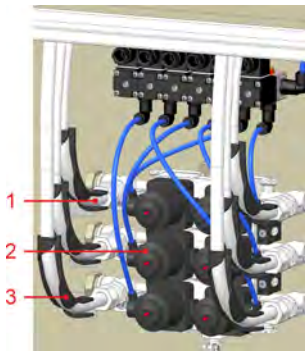

Fig. 7: Diaphragm valve manifold block / machine assignments
1. As shown in Fig. 7, connect the hoses for connecting the washer extractors to the threaded unions (Fig. 7, no. 1) of the valve block (Fig. 7, no. 2).
2. Feed the hoses outside via the angle guide (Fig. 7, no. 3).